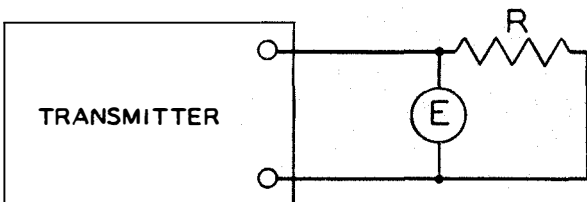

Fig. 2-1. E^2/R Method of Power Measurement
a. The power dissipated in a resistor is given by the relation $W = E^2/R$, where E is voltage across resistance R and is shown in Fig. 2-1. One of the oldest methods of measuring transmitter power at low radio frequencies depends upon this relation.
(1) The voltmeter E of Fig. 2-1 may be equipped with a direct-reading scale in watts, for use with a definite load resistance R. This scale would be linear in watts if the voltmeter were of the square law type similar to thermocouple or iron vane meters.